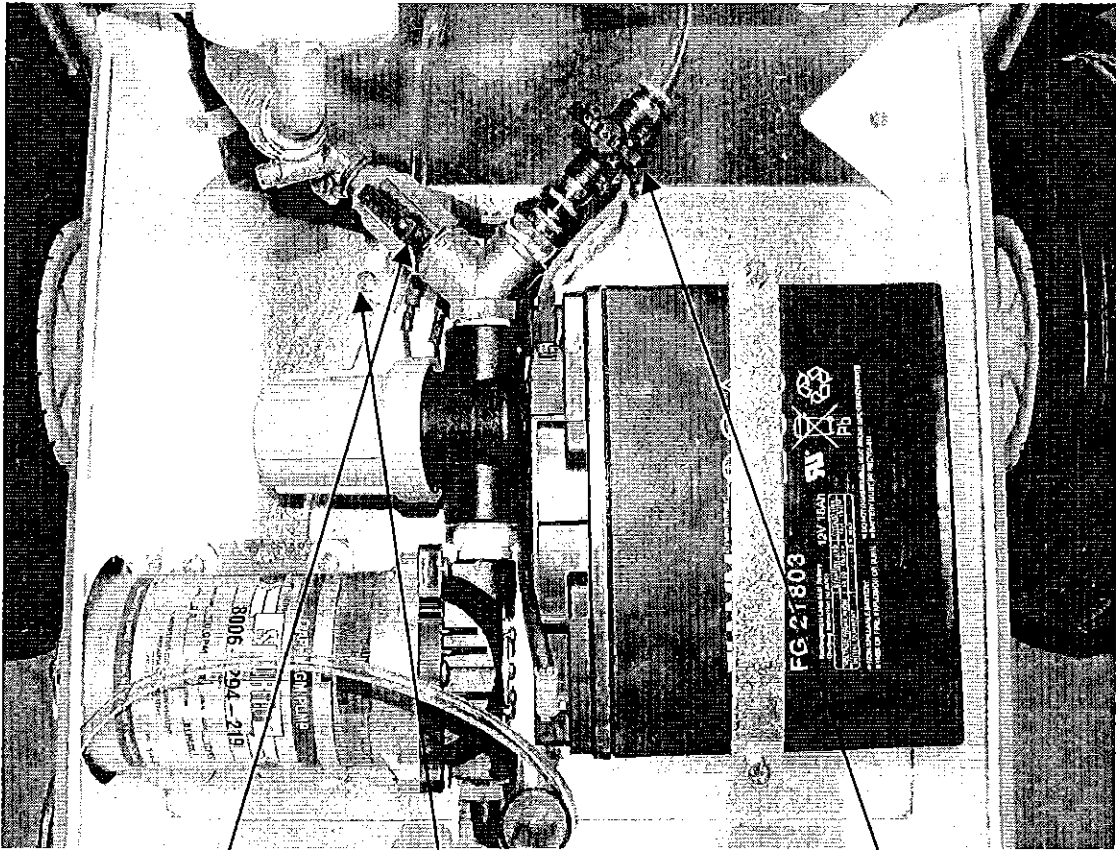

Fig: 1 – Spraying from the main tank – paint spraying
3. To operate the Topline TXE machine from the main tank ensure that the silver tap (Paint line tap), located on the tank line, is in the on position whilst ensuring that the water line tap is in the off position – see Fig 1. When either of these taps are in the on position, the tap-operating lever will be in line with the tap – i.e. the operating lever will be parallel with the tap.
2. On a monthly basis – remove the wash tank from the machine and wash thoroughly to remove any algae build up. To do this simply slacken the P clip holding the tube in place – see Fig 1 - and gently pull the tank away from the machine until the fitting is exposed and you are able to remove the tube from the wash tank. When complete, push the tube firmly back into the wash tank fitting and pull the tube back through the P clip so that the wash tank is tight against the front of the cover and retighten the P clip down to secure the tube back in place, ensuring that the large tube sleeve is gripped by the clip.